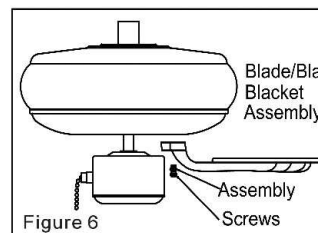

Figure 6
3. Rotate the center flywheel until the blade bracket screw holes in the center flywheel are visible from the cut-out in the top light kit plate (Figure 6).
4. Insert the blade/blade bracket assembly through the hole in side of the center flywheel, align the 2 screws holding blade bracket with the screw hole in the center flywheel and secure with screws supplied (Figure 6).